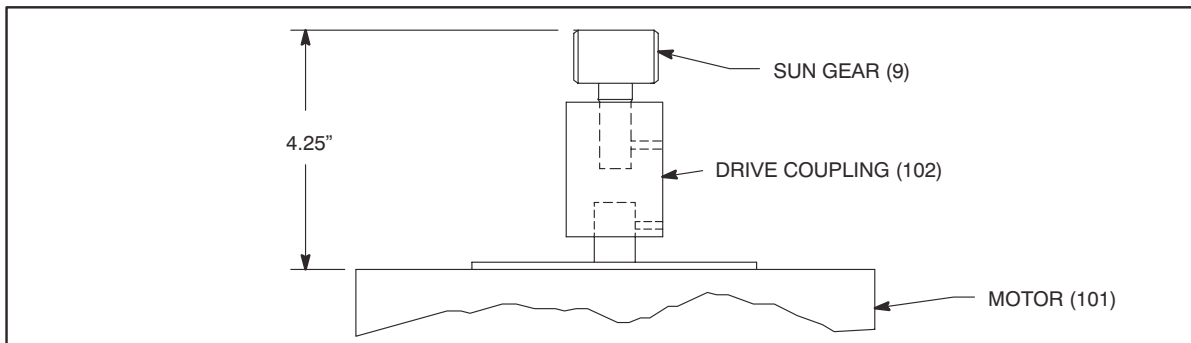

FIGURE 4 – Sun Gear Placement
- b . Remove mixer shaft (231) from mixer quill drive as explained in Section 4.
- d . Remove the (4) socket head cap screws (60) holding the bearing housing (36) and spacer (21) to the motor (101).
- e . Lift the motor (101), motor coupling assembly (102) and sun gear (9) (Figure 4) off the spacer (21). It may be necessary to tap the bearing housing (36) gently with a rubber mallet to get the bearing housing to separate from the spacer and motor.
- f . Remove the sun gear (9) from the motor coupling (102) and examine for wear. If "reuseable" replace sun gear in gear mesh.
- g . Remove the drive coupling (102) from the motor if necessary.
- a . Remove grease from gear chamber of bearing housing (36).
- b . Remove sun gear (9) and gear carrier assembly (1) as an assembly. Tape these parts together to prevent the sun gear from accidental removal. Remove any remaining old lubricant.
- c . Remove hardware (7,8) and remove ring gear (1) from bearing housing (36).
- d . Remove upper retaining ring (59).
- e . Place housing motor end down and remove oil seal (42) from drive quill (35). This seal will be damaged and must be replaced.
- f . Remove lower retaining ring (44).
- g . Place the bearing housing upright in a press, and press out drive quill (35) and lower bearing (41).
- i . **PACK THE GEAR CARRIER (1)** with grease and rotate the gears several times to distribute the grease to the needle bearings. Refer to Section 6 for lubricant recommendations.
- j . Align the flats on the inside of the gear carrier (1) with the flats on the drive quill (35). Place the gear carrier and sun gear (9) assembly onto the drive quill.
- k . Install the ring gear (2), hollow pins (5), and hardware (7,8) in bearing housing (36).
- l . Install gasket (22) in its groove on the bearing housing, and gasket (43) in its groove in the spacer.
- m . Remove the sun gear (9) from the gear carrier (1).
- n . Place the drive coupling (102) on the motor shaft if necessary.
- o . Install the sun gear (9) into the drive coupling (102) until it shoulders against the drive coupling. Tighten the two set screws to 7 ft–lbs.
- p . Set the elevation of the sun gear to the dimension shown in Figure 4 and tighten the remaining two coupling set screws to 7 ft–lbs.